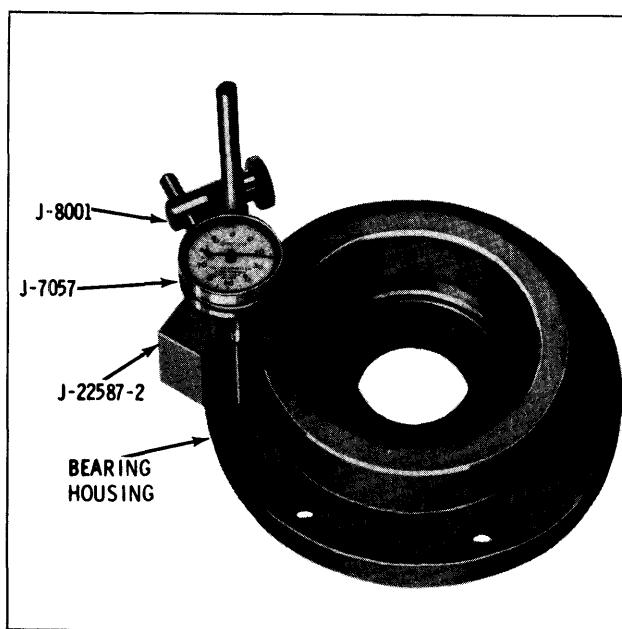

Fig. 3EC-49 Checking Outer Flange of Housing
- Tool 22587-2, (Fig. 3EC-48) While holding contact studs (three) of Tool J-22587-2 firmly against shoulder of bearing housing, position dial indicator as shown in Fig. 3EC-48 and rotate dial to ZERO.